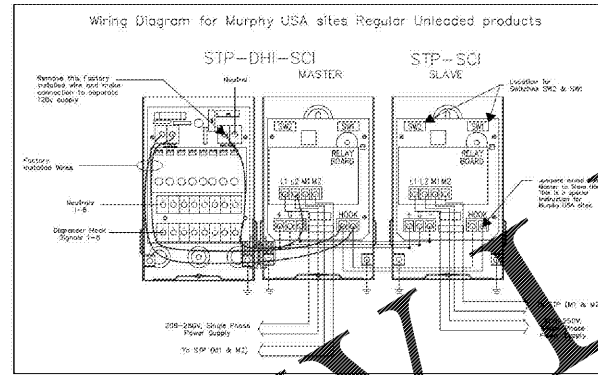

Figure 1 (continued on Page 2)
- Remove factory installed wire from L2 of STP-SCI Master to STP-DHI input power and make connection to separate 120V input power for STP-DHI as noted in Figure 1
- Jumper Hook signals from STP-SCI Master to STP-SCI Slave as shown in Figure 1
**NOTE:** When wired according to Figure 1, the STP-DHI and one STP-SCI unit will continue to operate even when the other STP-SCI unit is de-energized. When a STP-SCI is de-energized, the Hook signals will remain energized in both STP-SCI units when the STP-DHI is energized and any dispenser signal 1-8 is present.